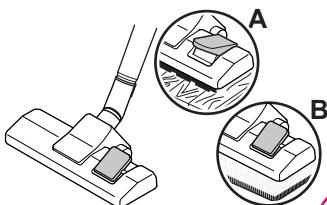

Fig. 12
5. Adjust the carpet/hard floor switch (Fig. 12) depending on the type of flooring:
- **Hard floor (Fig. 12/A)**
**Carpet (Fig. 12/B)**